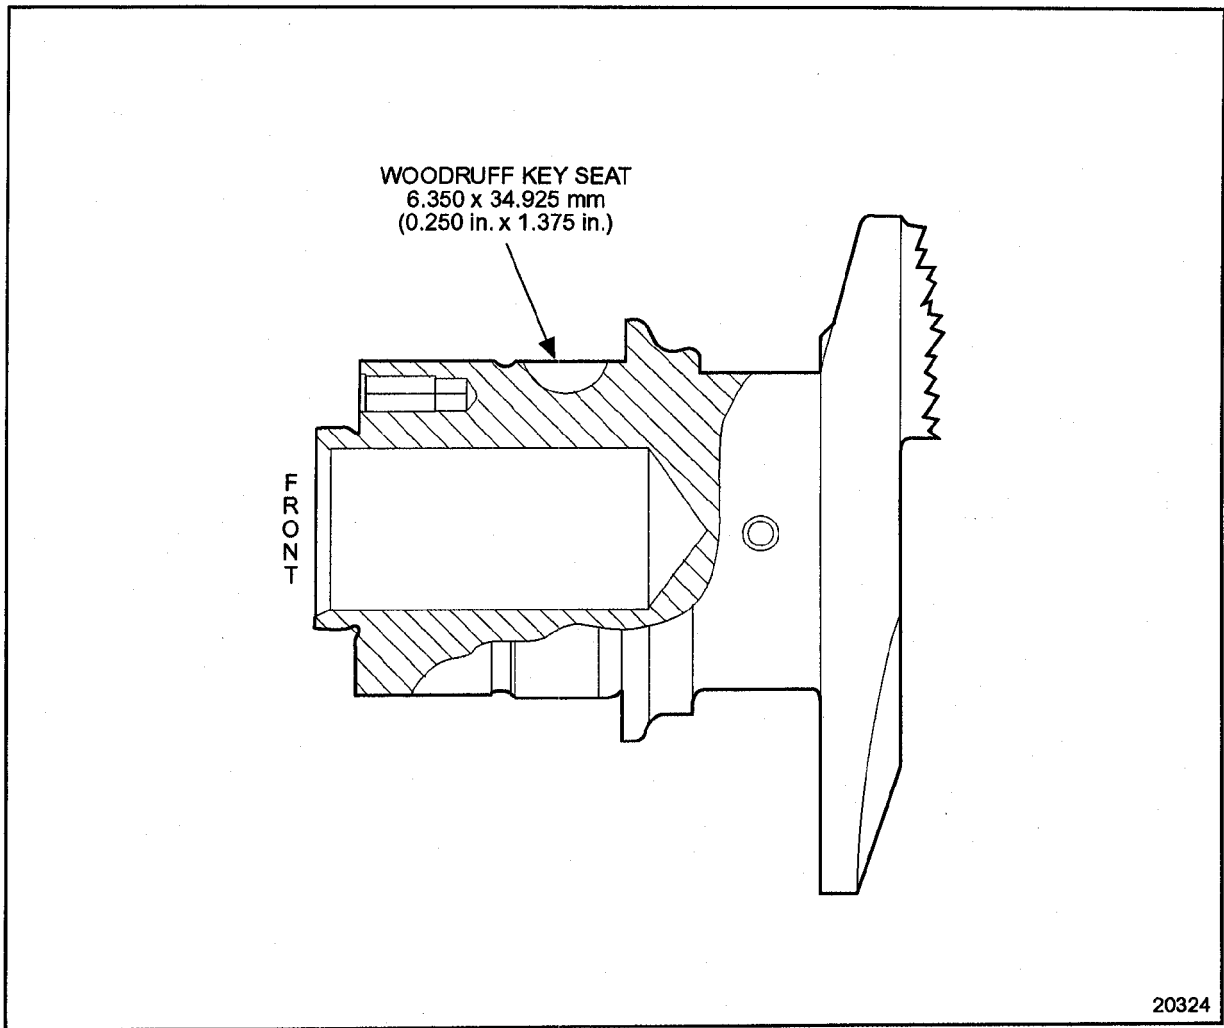

Figure 1-462 Standard Crankshaft Keyway Dimensions
3. Inspect keyway conditions using width gages and micrometers. Compare with the specifications. See Figure 1-462.